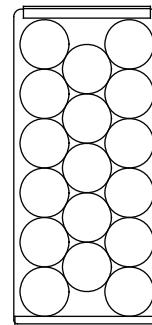

Fig B1
**Beverage Compartment (Left):** It will be necessary to position the cans alternately on the upper three shelves. This will allow for the storage of seventeen (17) 355ml cans (Fig. B) per shelf in each of the top three shelves, and ten (10) cans on the bottom (Fig. B1) for a total storage capacity of 61 beverage cans.